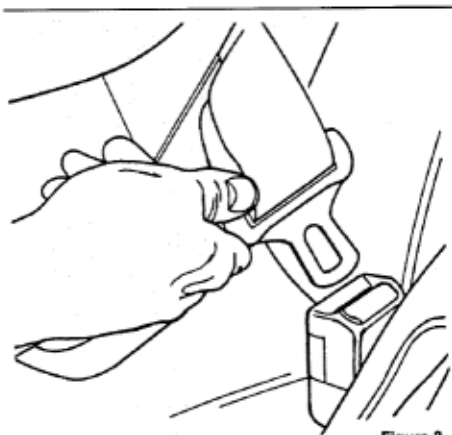

Figure 3
4. Insert the belt tongue into the proper buckle for that seating position until you hear and feel the latch engage. See Figure 3. Make sure tongue is latched securely to buckle by pulling on tongue.